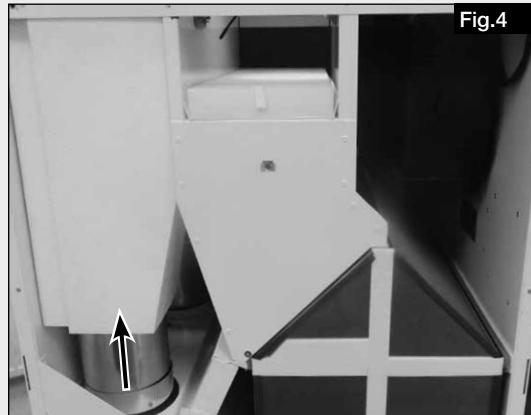

Fig.4
1. Slide connecting pipe towards the top of the unit (see Fig. 4).